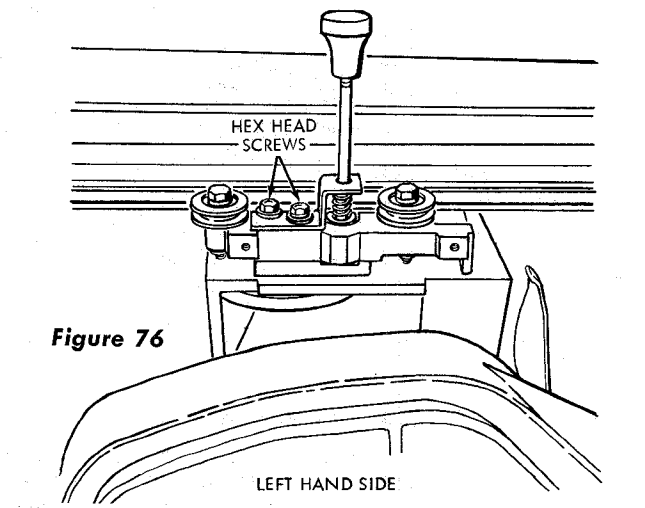

Figure 76
- (c) Loosen (slightly) two hex-head screws (figure 76).
- (e) Lock the yoke with the yoke clamp handle and tighten the two hex-head screws (figure 76).